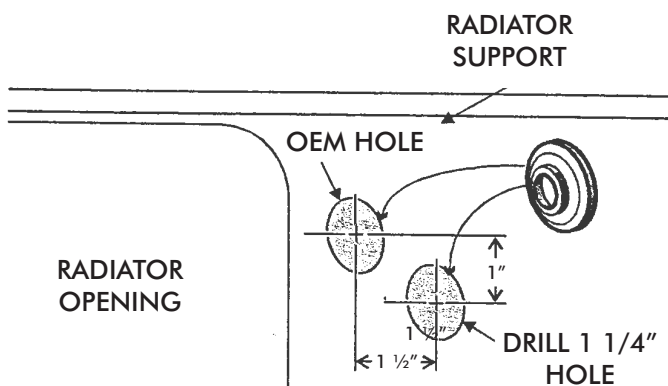

FIGURE 8
1. DRILL A 1 1/4" HOLE IN THE LOCATION SHOWN IN FIGURE 8 BELOW. A 1/8" PILOT HOLE MAY BE NEEDED TO INSURE PROPER LOCATION OF THE 1 1/4" HOLE.
2. INSTALL THE RUBBER GROMMETS (SUPPLIED), ONE IN THE OEM HOLE AND ONE IN THE 1 1/4" HOLE IN RADIATOR SUPPORT. SEE FIGURE 8 BELOW.
INSTALL HEATER HOSES AND HEATER VALVE AS SHOWN IN FIGURE 8, PAGE 11. INSTALL HEATER CONTROL VALVE IN PRESSURE (INTAKE MANIFOLD) HEATER HOSE LINE.